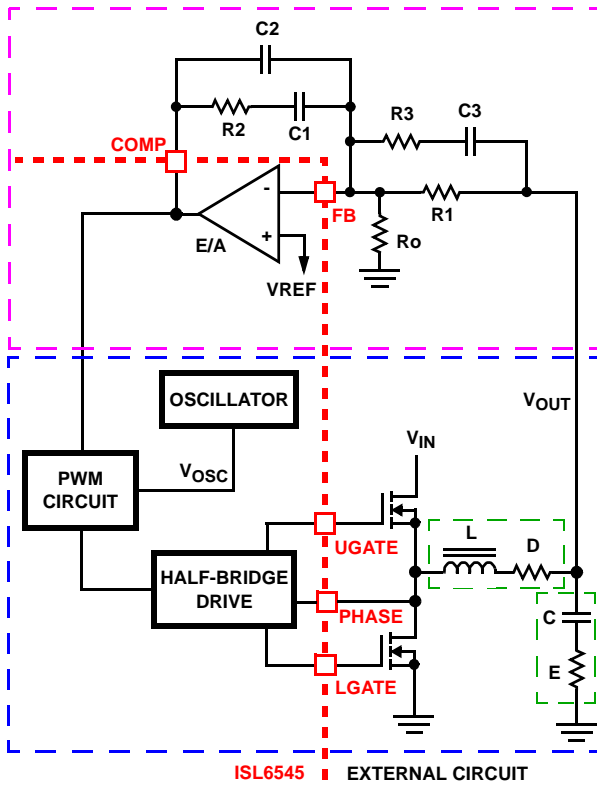

FIGURE 9. VOLTAGE-MODE BUCK CONVERTER COMPENSATION DESIGN
This section highlights the design consideration for a voltage-mode controller requiring external compensation. To address a broad range of applications, a type-3 feedback network is recommended, as shown in the top part of Figure 9.
Figure 9 also highlights the voltage-mode control loop for a synchronous-rectified buck converter, applicable to the ISL6545 circuit. The output voltage (V_{OUT}) is regulated to the reference voltage, V_{REF} . The error amplifier output (COMP pin voltage) is compared with the oscillator (OSC) modified sawtooth wave to provide a pulse-width modulated wave with an amplitude of V_{IN} at the PHASE node. The PWM wave is smoothed by the output filter (L and C). The output filter capacitor bank's equivalent series resistance is represented by the series resistor E.
The compensation network consists of the error amplifier (internal to the ISL6545) and the external R1-R3, C1-C3 components. The goal of the compensation network is to provide a closed loop transfer function with high 0dB crossing frequency (F_0 ; typically 0.1 to 0.3 of F_{SW}) and adequate phase margin (better than 45°). Phase margin is the difference between the closed loop phase at F_{0dB} and 180°. The equations that follow relate the compensation network's poles, zeros and gain to the components (R1, R2, R3, C1, C2, and C3) in Figure 9. Use the following guidelines for locating the poles and zeros of the compensation network:
4. Select a value for R1 (1kΩ to 5kΩ, typically). Calculate value for R2 for desired converter bandwidth (F_0). If setting the output voltage via an offset resistor connected to the FB pin, Ro in Figure 9, the design procedure can be followed as presented.